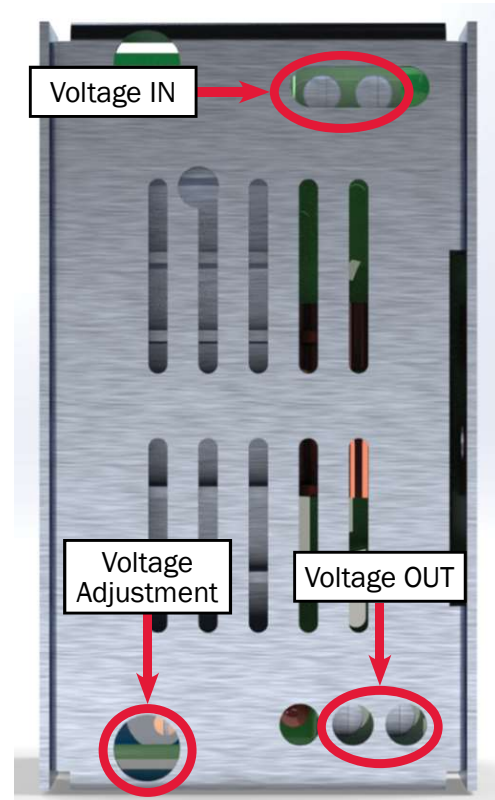

Figure 133
11. Using a flat-head screwdriver, loosen the four terminal screws found at both ends of the buck boost module as shown in Figure 133.